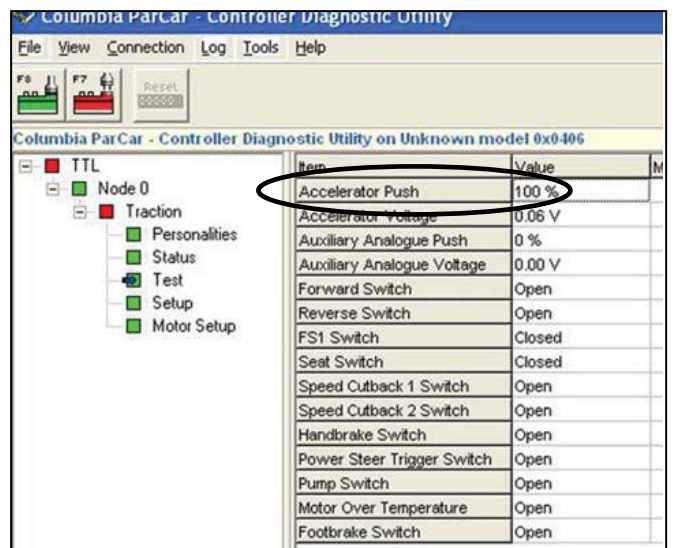

Figure 4.4
2. With the Forward / Reverse knob set to Neutral, slowly press the accelerator pedal. The “Accelerator Push” value should rise in value from 0-100% smoothly as you press the pedal (Figure 4-4). If the value does not change, the controller is not receiving input from the accelerator control device (potentiometer or linear accelerator device). Check all cable and wire connections regarding the accelerator control device. If the value does rise, but not to 100%, adjust the accelerator cable that attaches to the accelerator device.